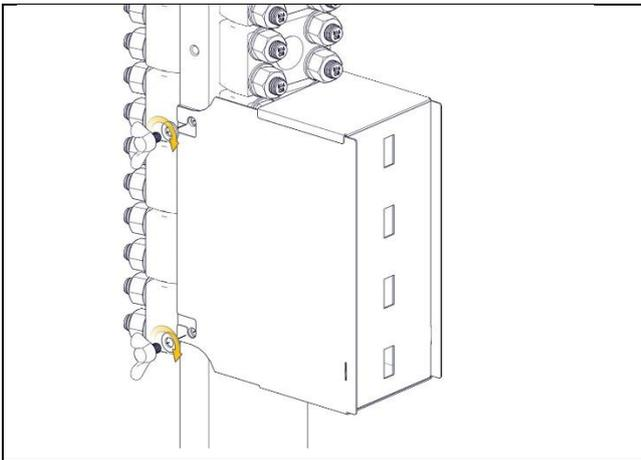

Fig. 1
Mount the glare box (pos. 1) to the body of the indicator by means of the wing screws (pos. 2). This mounting is done in the first step on the opposite side of the mounting of the retaining bracket. Place the washers (pos. 3) underneath. (Fig. 1)